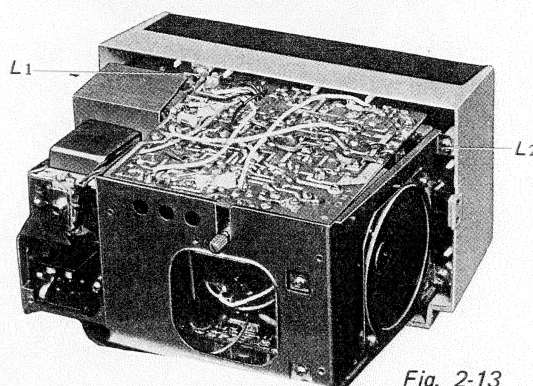

Fig. 2-13
4. Remove the four screws labeled L1–L4 in Figs. 2-13 and 2-14.